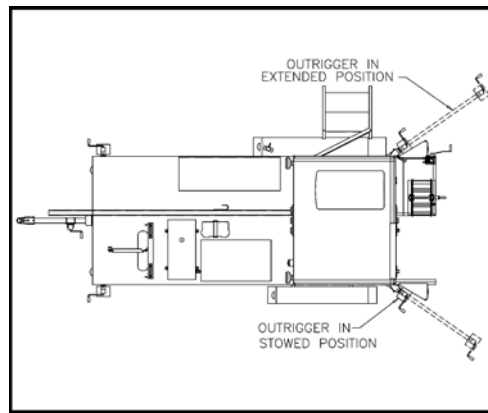

Fig. 5 Outrigger Positions
3. Remove the two hitch pins that hold the rear "outriggers" in the stowed position. Carefully pull them out until the second set of pinholes is visible. Then reinsert the pins with the outriggers in the extended position (*see Fig. 5*). Repeat for the front "outriggers".